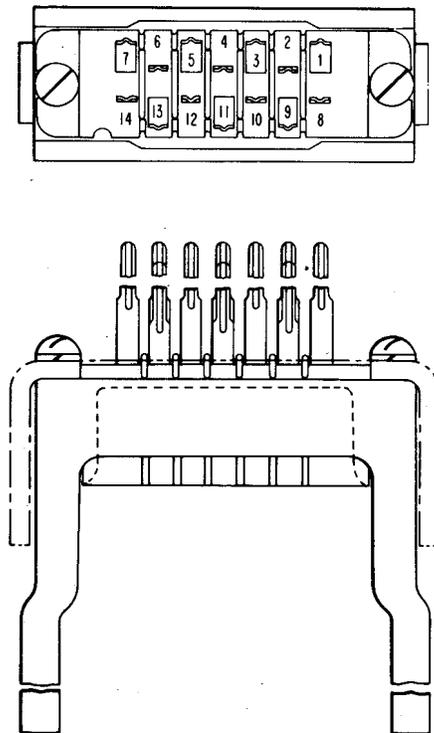

Fig. 7—912A or B1 Connector
2.05 912A and B1: The 912A and B1 (Fig. 7) connectors consist of a molded block of insulating material equipped with 14 contacts housed in a metal bracket to guide and support a printed wiring board.